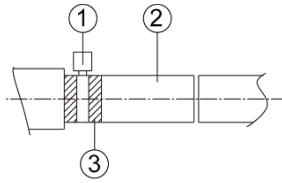
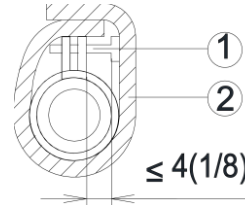

Fig 9.3.2
Fig 9.3.3
- (1) Insert the drain hose into the drain hole and tighten it with tapes, as shown in Fig 9.3.2.
- (2) Tighten the pipe clamp, with the distance between screw nut and hose smaller than 4mm(1/8in.).
- ① metal clamp(accessory)
- ② drain hose(accessory)
- (3) Use sealing plate to make the pipe clamp and hose insulated, as shown in Fig.9.3.3.